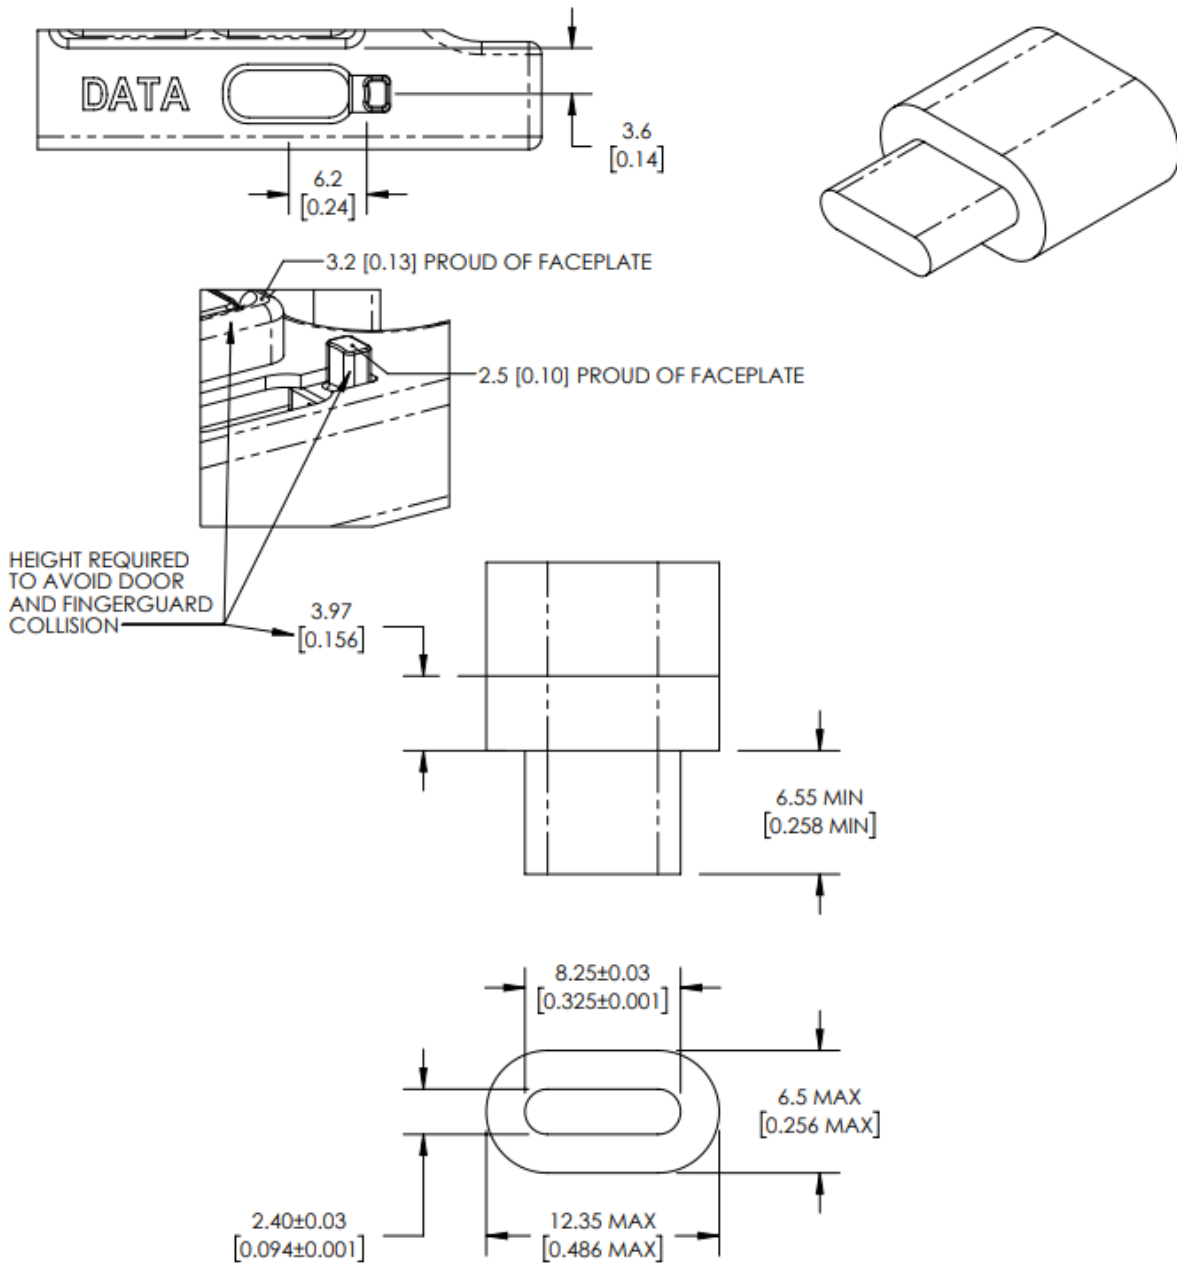

Figure 10: USB Drive Mechanical Requirements
4. Mechanical requirements are outlined in Figure 10.